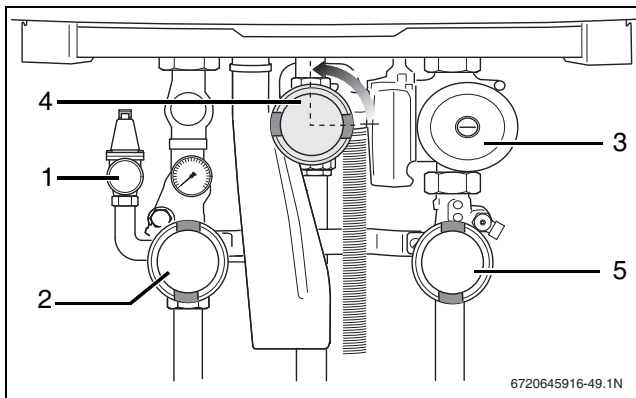

Fig. 52 Open the gas valve
- ▶ If 0.5 psi (34.45 mbar) or less, slowly open the gas valve by pushing on the gas valve and turning it ¼ rotation in a counter-clockwise direction (→ fig. 52). The gas valve is open when it is in the vertical position.